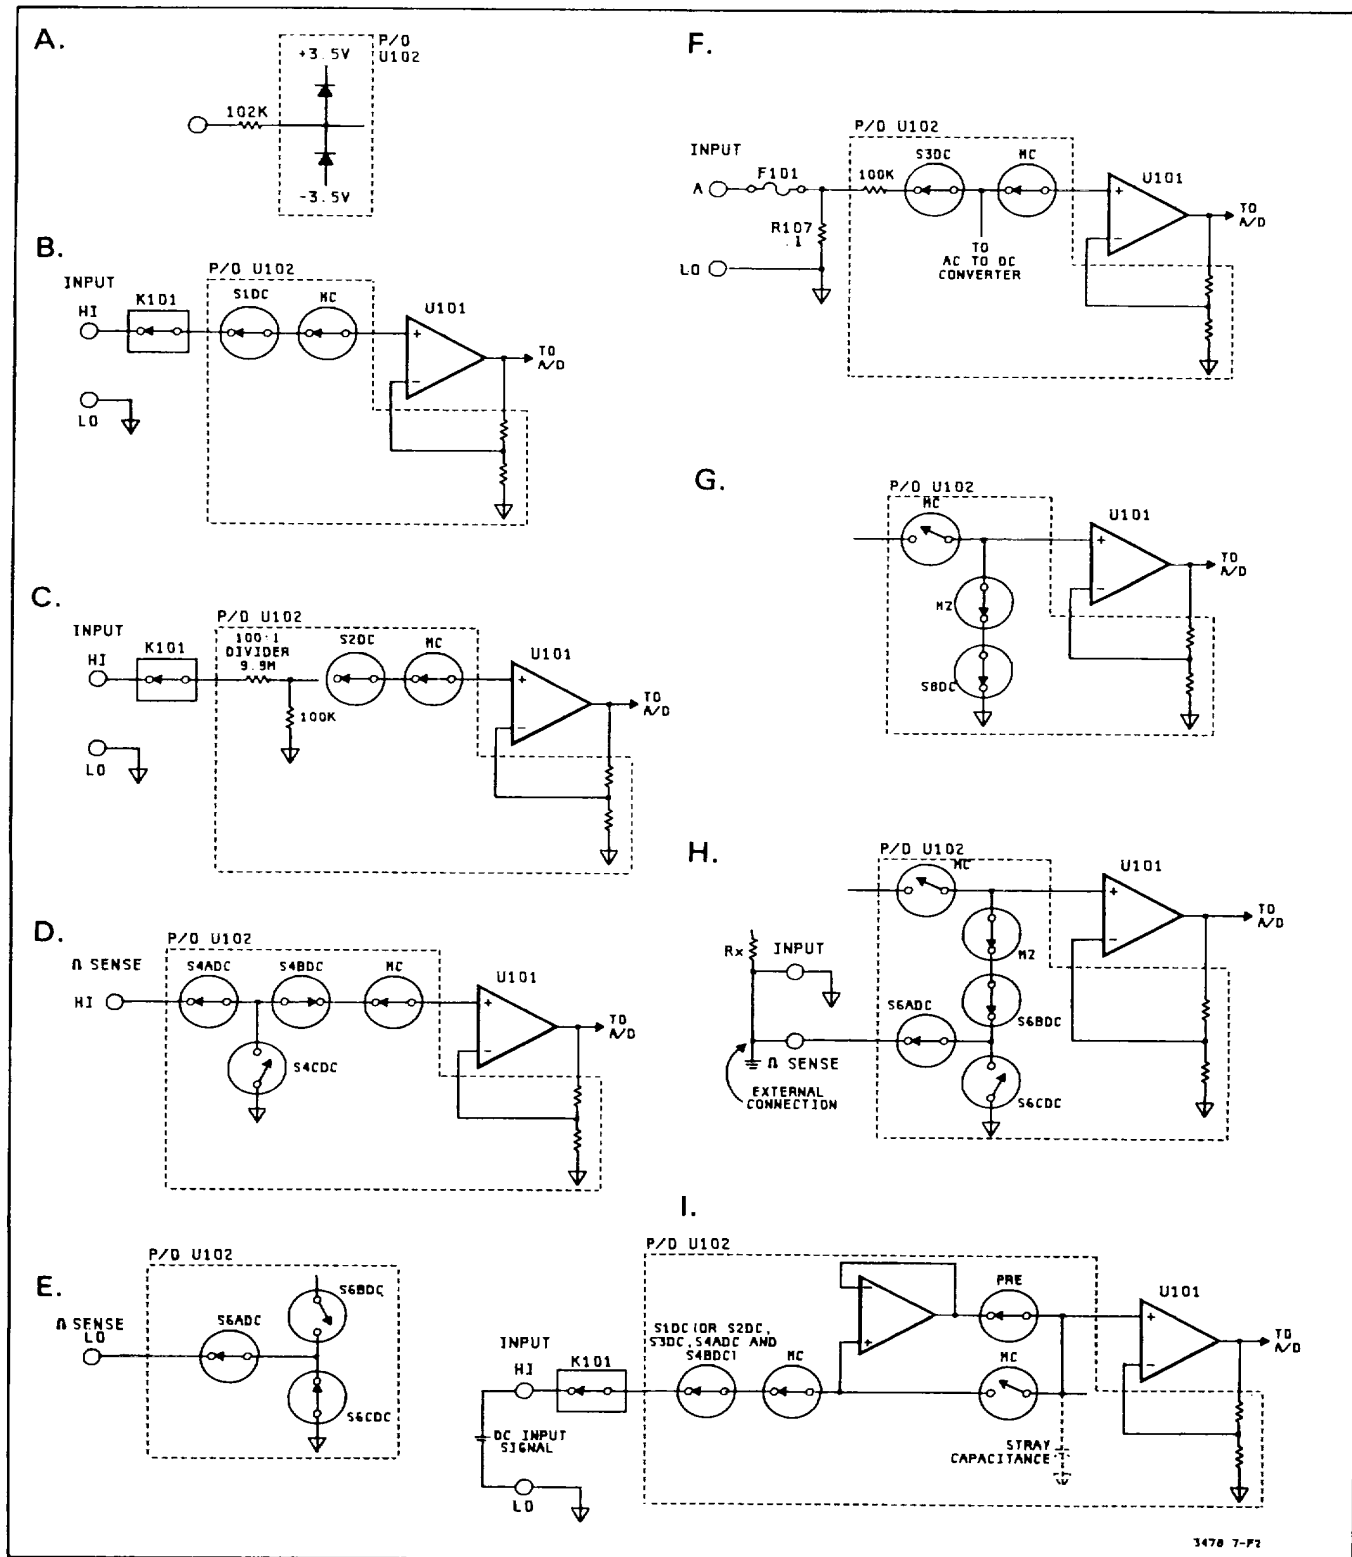

Figure 7-F-2. Simplified Schematic Of The Input Switching Circuitry
b. Low Voltage Protection. This circuit consists of diodes connected to the individual input nodes (part of the HI INPUT, LO INPUT, A INPUT Paths, etc.). The diodes on each node are connected (internally in U 102) to + 3.5V and -3.5V power supplies. If the voltage on a node exceeds either + 4.2V or -4.2V, a diode conducts and keeps the level on the node to the $\pm 4.2V$ levels. The difference between the high voltage at the input terminals and the voltage at the input nodes is dropped across the resistors which are in series with the diodes and input terminals (the low pass filter). Figure 7-F-2A shows a typical protection circuit.
7-F-13. Input Switching. The Input Switching Circuitry consists mostly of Relay and MOSFET switches, with most FET switches located in U102. The purposes of the switches are to provide five signal paths to the Input Amplifier and to connect the amplifier for a zero measurement (done in the Autozero Function; see paragraph 7-F-14). The switches are controlled by circuits in U102 which receive their control information from the A/D Controller. The following explains the various input paths. Refer to Figure 7-F-2 and Schematic 1 for the explanation.
a. Low Voltage Range Input Path (Figure 7-F-2B). The path consists of K101, R103, R104, R10, and SIDC (SIDC is in U102). The purpose of the path is to connect the HI INPUT Terminal (high input voltage) to the DC/Ohms Input Amplifier. The path is used only in the 30mV through 3V dc volts Ranges and all Ohms Ranges.
b. High Voltage Range Input Path (Figure 7-F-2C). The path consists of RI 10, K102, S2DC (in U102), and a 100:1 divider (9.9M ohm and 100K ohm resistors, RD99 and RD98, in U102). The purpose of the path is to attenuate input voltages by a factor of 100 and to connect the attenuated voltage to the DC/Ohms Input Amplifier. The path is used only in the 30V and 300V dc volts Ranges.
c. Ohms High Sense Path (Figure 7-F-2D). This path consists of RI05, R106, and S4ADC and S4BDC (S4ADC and S4BDC are in U102). The path connects the HI OHMS SENSE Terminal (high ohms input) to the DC/Ohms Input Amplifier, only when the 3478A is in the 4-Wire Ohms Function. Switch S4CDC (which is also part of the path) is used to connect the junction of S4ADC and S4BDC to ground. Switch S4CDC is closed in all functions except the 4-Wire Ohms Function and shunts any possible voltage on the S4ADC and S4BDC junction to ground.
d. Ohms Low Sense Path (Figure 7-F-2E). This path consists of R101, R102, and S6ADC and S6CDC (S6ADC and S6CDC are in U102). The path is used to connect the LO OHMS SENSE Input Terminal (low ohms input) to ground (LO INPUT Terminal), when the 3478A is in the 4-Wire Ohms Function. In the 2-Wire Ohms Function, the low ohms input is the LO INPUT Terminal (which is connected to ground).
e. Current Input Path (Figure 7-F-2F). This path includes R107 and S3DC (in U102). The voltage drop across R107 (which is generated by the current being measured) is connected through S3DC to the DC/Ohms Input Amplifier. This path is used only in the DC Current Function.
a. Autozero (in the DC Volts, DC Current, and 2-Wire Ohms Functions). In the DC Volts, DC Current, and 2-Wire Ohms Functions, the zero measurement is made with switch MC (measure customer) open, and switch MZ (measure zero) and S8DC closed (see Figure 7-F-2G). Switch S8DC and MZ connects the DC/Ohms Input Amplifier to ground through a 102K ohm resistor. After the zero measurement is made, switch S8DC and MZ opens, and switch MC closes for the input measurement. (Note: MOSFET switches MC, MZ, and S8DC are in U102.)